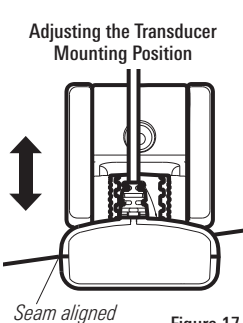

Figure 17
8. Adjust the transducer assembly vertically, until the seam on the leading edge of the transducer (the edge closest to the transom of the boat) is level and just slightly below the hull (Figure 17).
6. If you have the correct angle set on the transducer, yet lose a bottom reading at high speed, adjust the height and the running angle in small increments to give you the ideal transducer position for your boat. First, adjust the height in small increments (Figure 17).